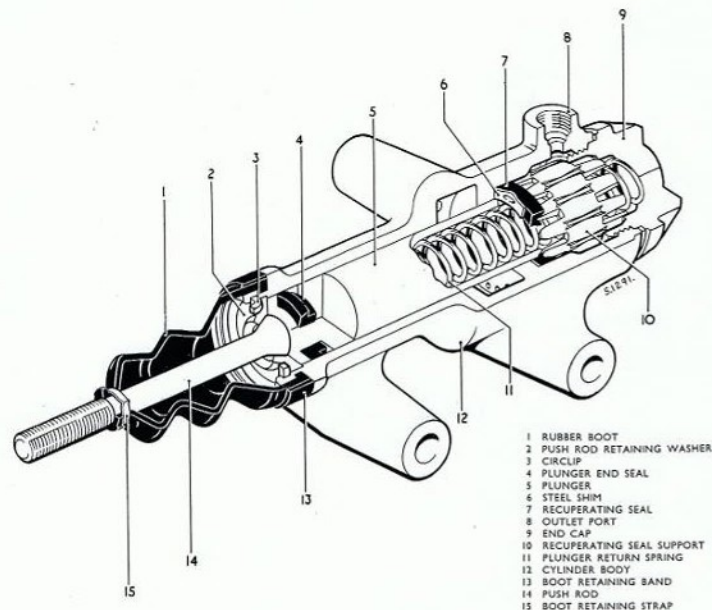

Fig. K.15. Sectional view of the master cylinder assembly
2. Ease the end seal over the push rod end of the plunger and into the groove machined in the plunger, ensuring that the end face on the tapered section of the seal abuts the push rod end of the plunger groove (see Fig. K.15).